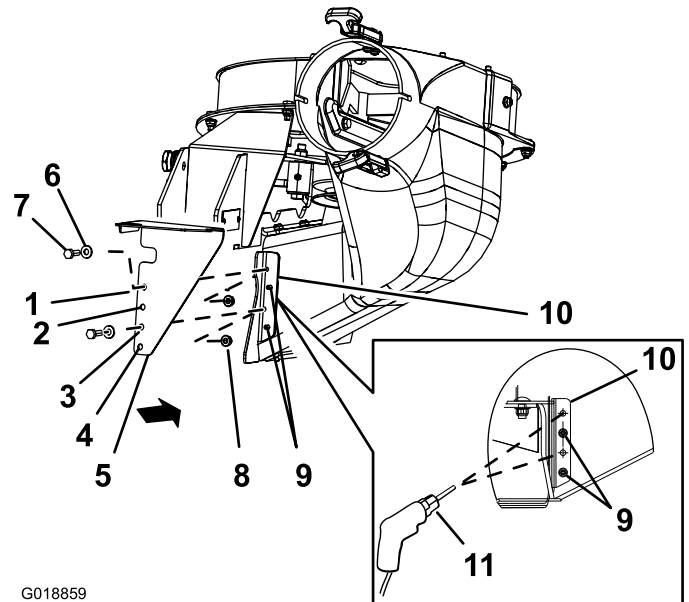

Figure 11
1. Align the lower guard to the blower-chute bracket as shown in Figure 11.
2. Align hole 2 and hole 4 of the lower guard to the rivet tails protruding through the blower-chute bracket (Figure 11).
3. Mark the outline of hole 1 and hole 3 of the lower guard on the blower-chute bracket, and remove the guard (Figure 11).
5. Drill 7 mm (0.277 inch) holes in the blower-chute bracket at the 2 center-punch marks (Figure 11).
1. Align the lower guard to the blower-chute bracket (Figure 11).
3. Secure the lower guard to the blower with 2 hex-head bolt (1/4 x 3/4 inch), 2 washers, and 2 locknut (1/4 inch) through hole 1 and hole 4 of the guard (Figure 11).